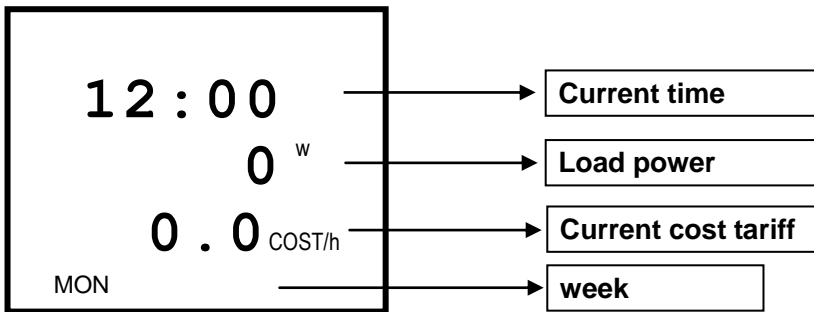

fig4
- Displaying line of power Blinks (fig4, the second line) if the load power is over 3680W